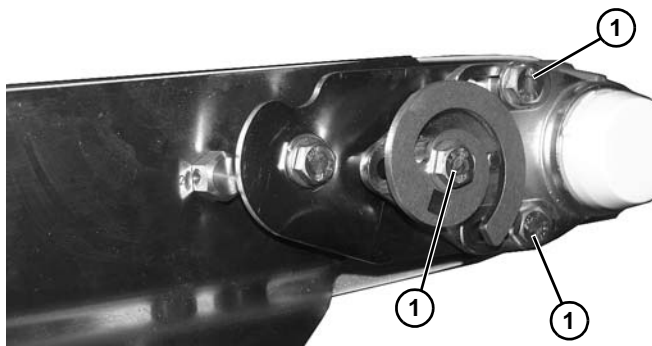

Figure 107
1. On idler end, loosen three screws (Figure 107, item 1) on each side of conveyor.